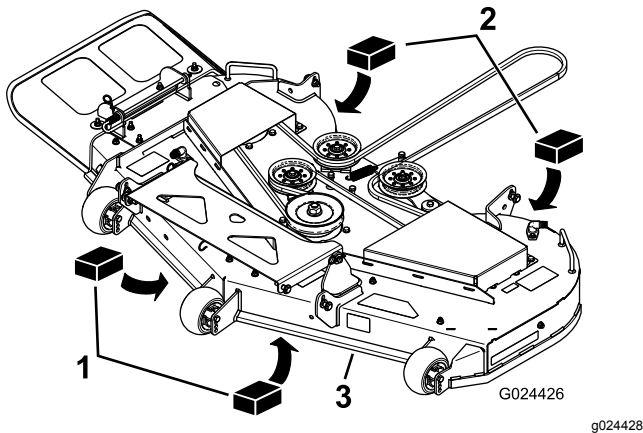

Figure 63
3. Place 2 blocks each having a thickness of 6.6 cm (2-5/8 inches) under each side of the front edge of the deck, but not under the anti-scalp roller brackets (Figure 63).
4. Place 2 blocks each having a thickness of 7.3 cm (2-7/8 inches) under the rear edge of the cutting deck skirt; 1 on each side of the cutting deck (Figure 63).